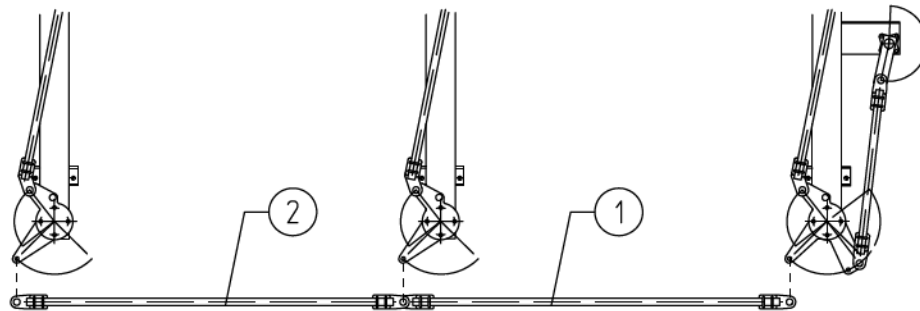

Figure 10
2. Release the bolts of the pivots used for the phase coupling rods. Mount the coupling rods on the pivots, while adjusting the length of the coupling rods to phase distance. See Figure 10. Details of the pivots are shown on the assembly drawing. Tighten the pivot bolts. Tighten all U-bolts after adjustment.